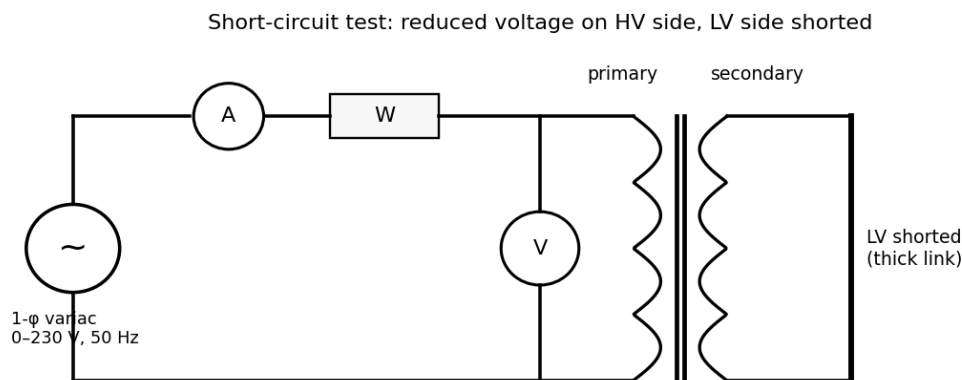

Figure 9.2: Short-circuit test connections.
- **SC test:** connect the circuit of Figure 9.2 (HV side supplied, LV shorted by a thick wire). Starting from zero, raise the voltage very carefully until the ammeter reads the rated HV current (8.7 A). Note V_{sc} , I_{sc} and W_{sc} .